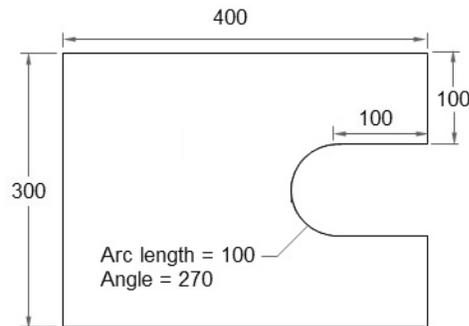
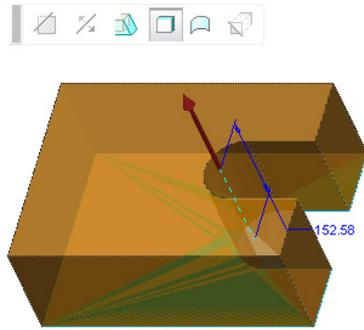

Figure 3-28 Sketch created
Figure 3-29 Preview of the extrude displayed with the live toolbar
- Draw the sketch by using the sketching tools, refer to Figures 3-28.
12. Move the cursor in vertical downward direction and specify the length of line as **100**. Figure 3-28 shows the sketch created.
2. Select the sketch, refer to Figure 3-28; the preview of the extrude with default extrude value is displayed, as shown in Figure 3-29. Also, the live toolbar is displayed. You can orient the model by using the middle mouse button.